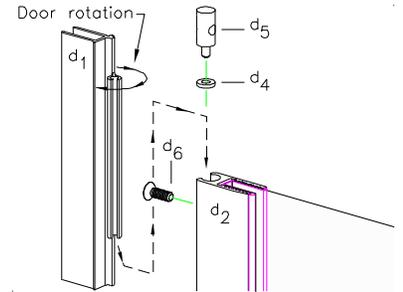

figure 3
7. Insert the Hinge Post (d1) into the Hinge Stile (d2) as shown in figure 3. Take a minute to check the door rotation (*is it the correct rotation for your configuration?*)? If it is not, then make it so. When satisfied, proceed.
8. Insert Hinge Washer (d4) and Hinge Bushing (d5) into Hinge Stile (d2) as shown in figure 3. Rotate Hinge Post (d1) out of the way and secure the bushing with one(1) Door Assembly Screw (d6) as shown in figure. Repeat step for opposite end.